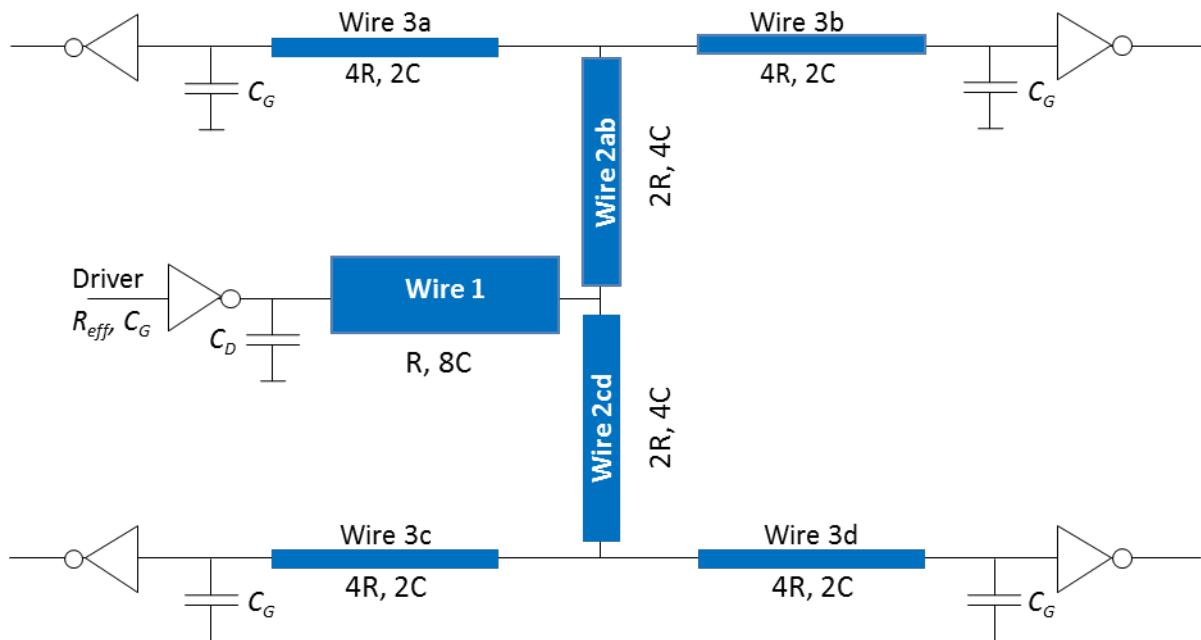

Figure 5. A driver inverter loaded by four identical receiver inverters across an H-tree wire interconnect.
5. **Wire delay** In Figure 5 you see a driver inverter loaded by four identical receiver inverters across an H-tree wire interconnect.
- Calculate the FO4 delay for the driver inverter when loaded as shown in Figure 5. (5 p)